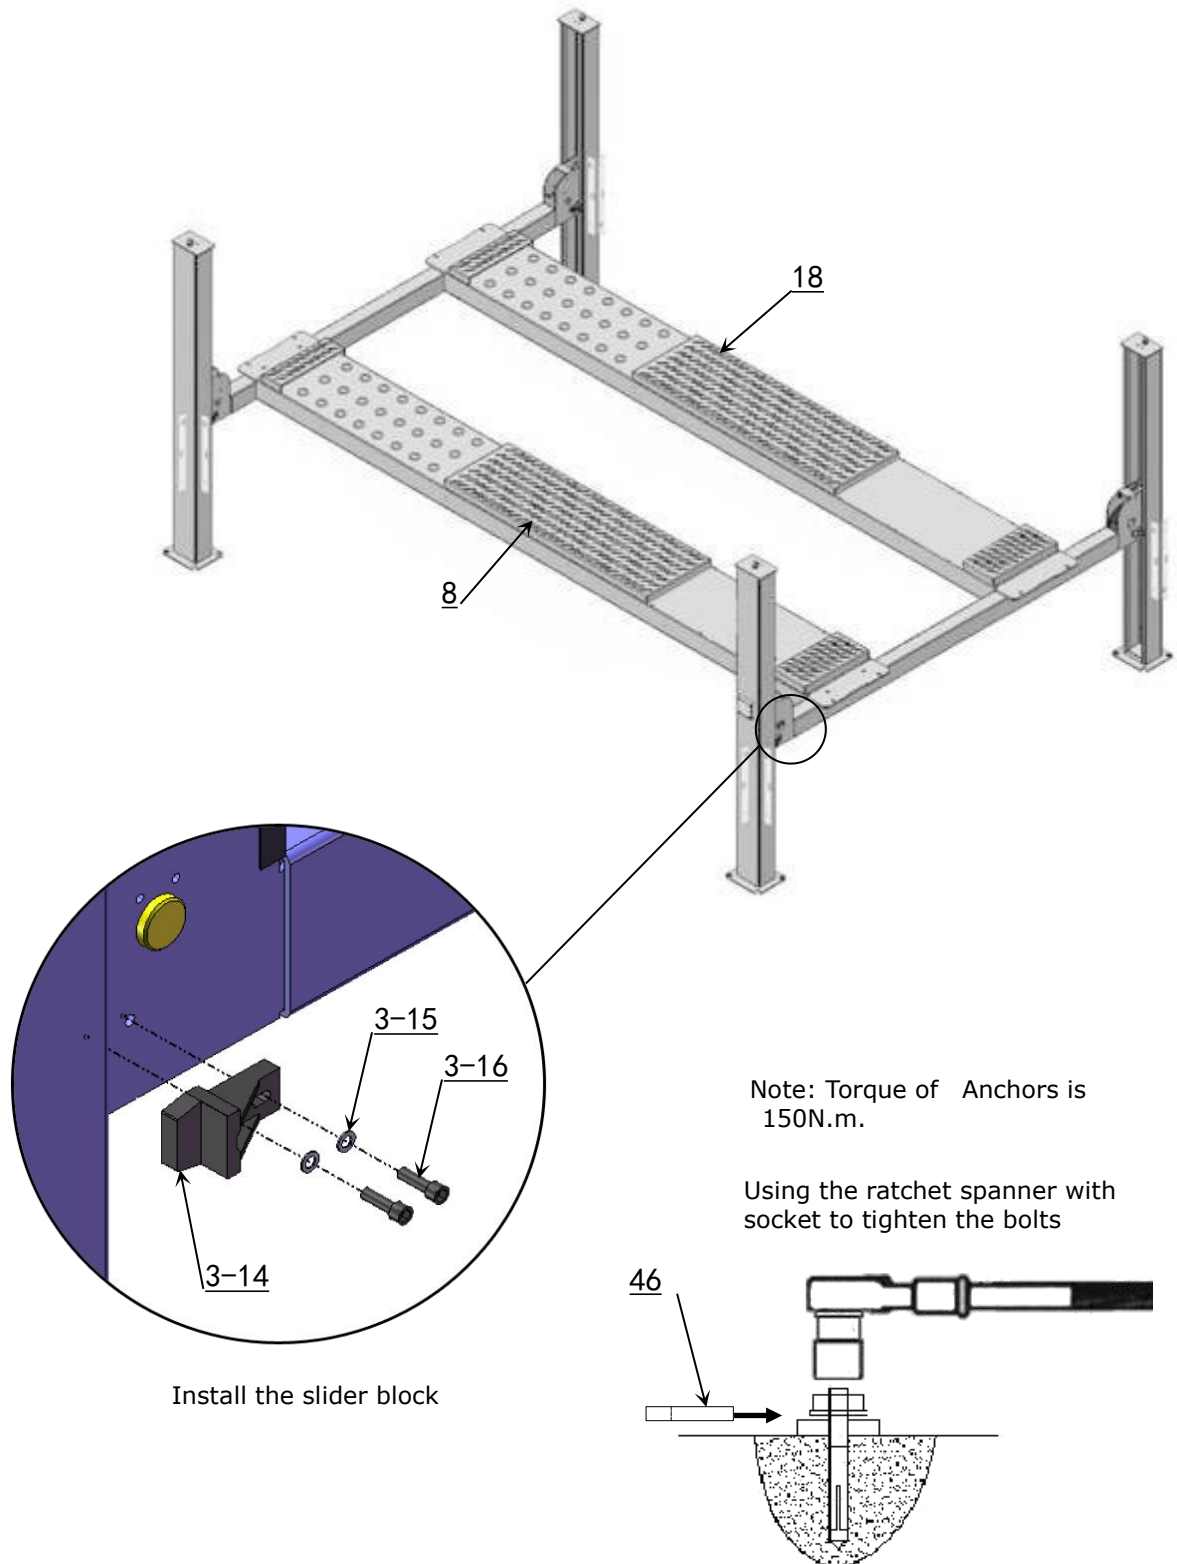

Fig. 22
I. Assembly offside platform and slider block, check the vertical of columns with level bar, adjusting with the shims if not, and then tighten the anchor bolts (**See Fig. 22**).